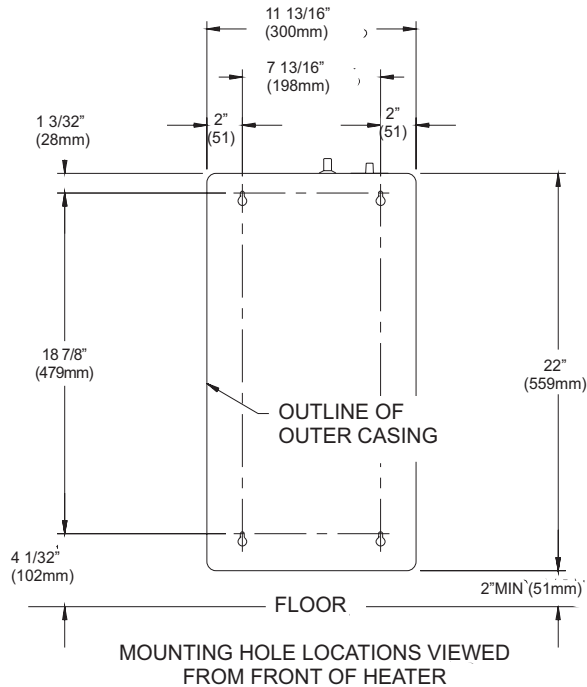

Figure 6 (SR-10T)
Refer to Figures 6 and 7 for measurements in order to locate (4) mounting holes on wall. Figures 6 and 7 are the front views of the heaters.